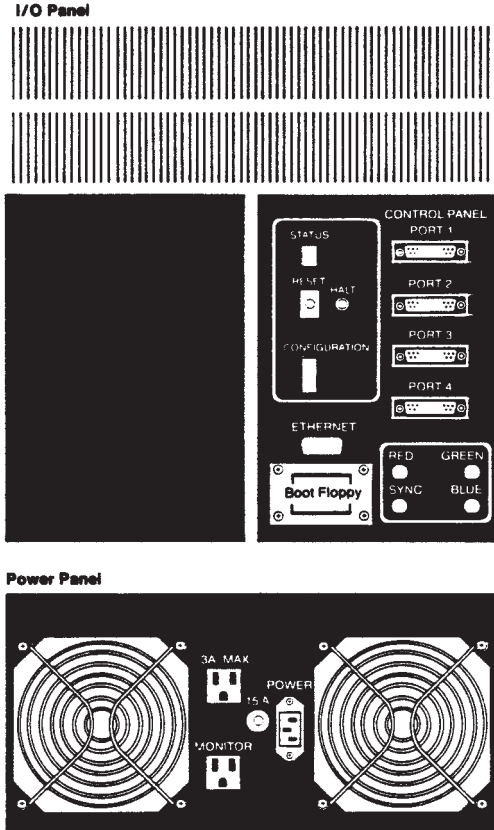

Figure 3-4: IRIS 1400 Cabinet Back Panel
The Cabinet I/O Panel has ports for connecting the Cabinet to the Monitor and a host computer (see Figure 3-4) and several control and indicator features.
The Cabinet Power Panel has two power outlets and a power plug (see Figure 3-4).
1. Connect the female end of the AC power cable to the power socket on the Cabinet Power Panel (see Figure 3-4).
1. Check the configuration switches on the I/O Panel on the rear of the Cabinet (see Figure 3-4). Switches 4 through 7 should be in the **Closed** position. Switch 8 should be in the **Open** position.